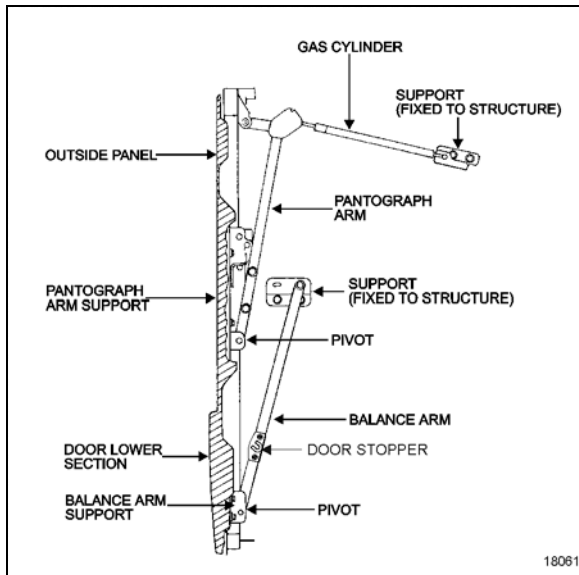

FIGURE 56: BAGGAGE COMPARTMENT DOOR
*Refer, if needed, to Figure 56 for identification of door components.*